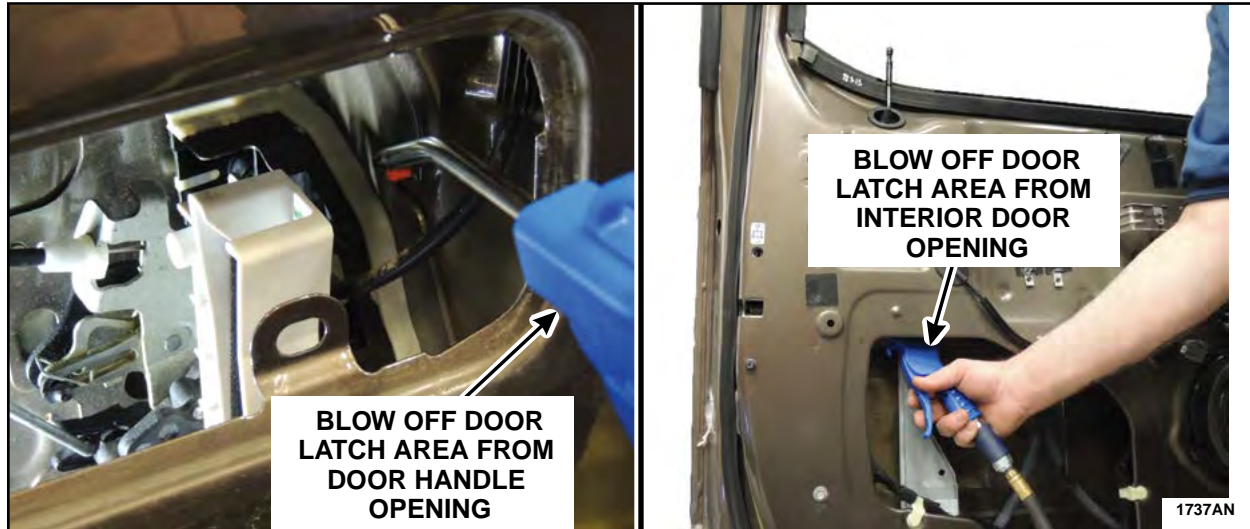

FIGURE 61
2. If not previously performed, use compressed air and blow out any debris or residual water from the door latch assembly, exterior door handle mechanism and cables for thirty seconds. Blow drying with compressed air for thirty seconds is critical to remove as much moisture as possible. See Figure 61.